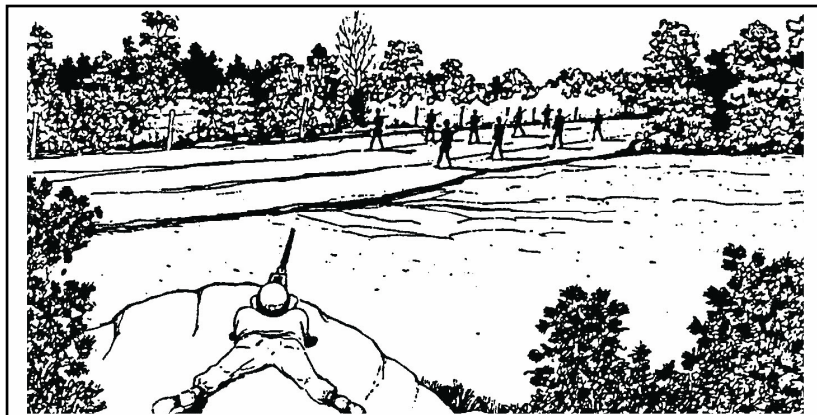

Figure 071-313-3454-11. Linear target with depth
(4) Deep target. Initially aim at the midpoint of the target, unless another portion of the target is more critical or presents a greater threat. Search down to the near end, then search up to the far end (figure 071-313-3454-12).